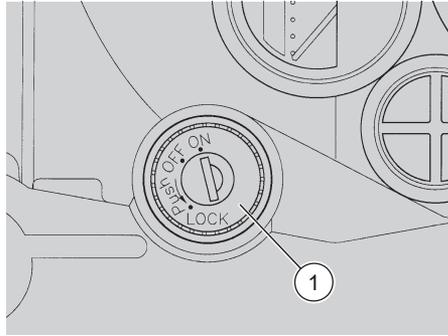

Fig. 18
- ◆ Turn the ignition switch to the "ON" position (1-Fig. 18).